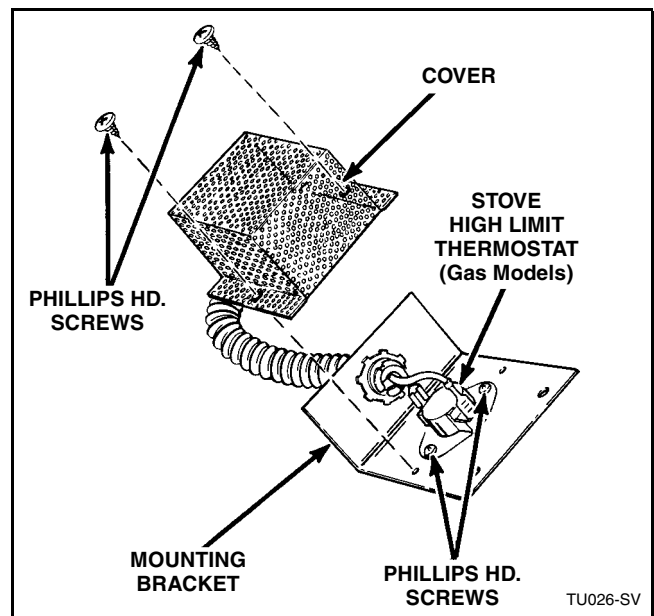

Figure 21
- Remove two screws holding cover to mounting bracket. Refer to *Figure 21*.
- Disconnect wires from thermostat. Refer to *Figure 21*.
- Remove two screws holding thermostat to mounting bracket. Refer to *Figure 21*.